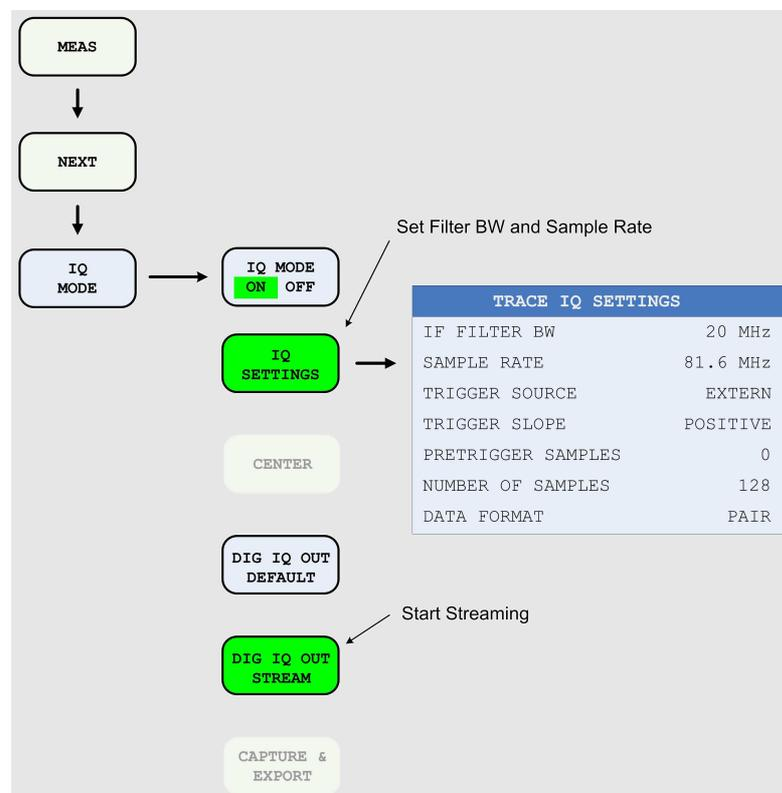

Figure 31: Analyzer configuration for IQ streaming
- ▶ Press the *MEAS* hardkey; then chose *NEXT* to move into the side menu and press the *IQ MODE* softkey (see Figure 31).
- ▶ Switch *IQ MODE* to *ON*, and then press *IQ SETTINGS*. A window of the same name opens (blue in Figure 31).